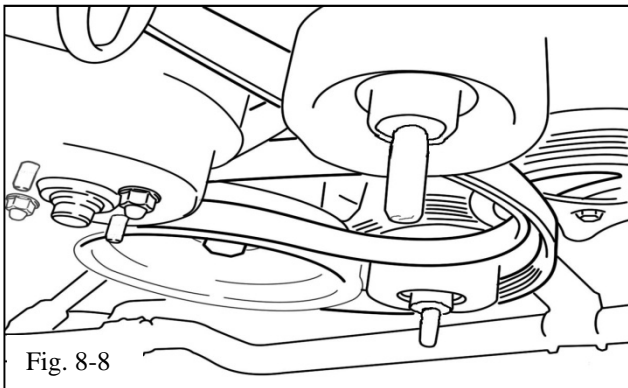

Fig. 8-8
- (j) Install the supercharger drive belt (C2) (Fig. 8-8).